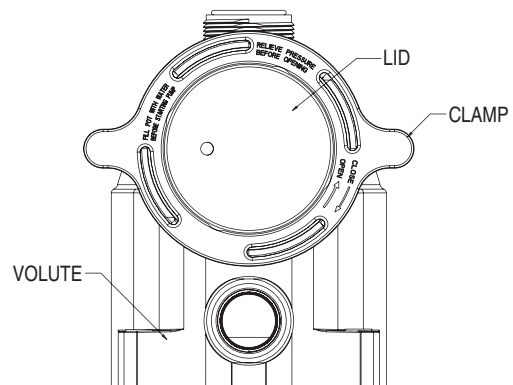

Figure 4.
10. Be sure the lid O-ring is properly placed. Seat the clamp and lid then turn clockwise until the handles are horizontal; see Figure 4.